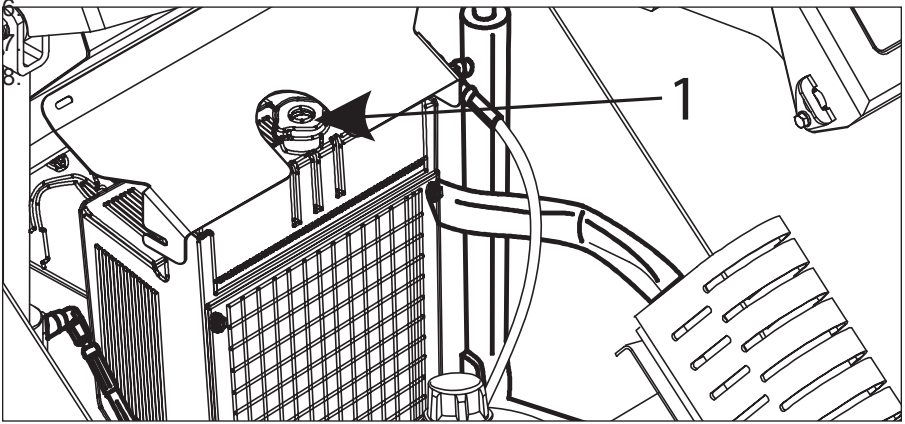

Figure 3-4 Filler Cap
- Remove radiator cap (Item 1, **Figure 3-4**) and check the radiator fluid level. The proper coolant level will be to the bottom of filler neck.